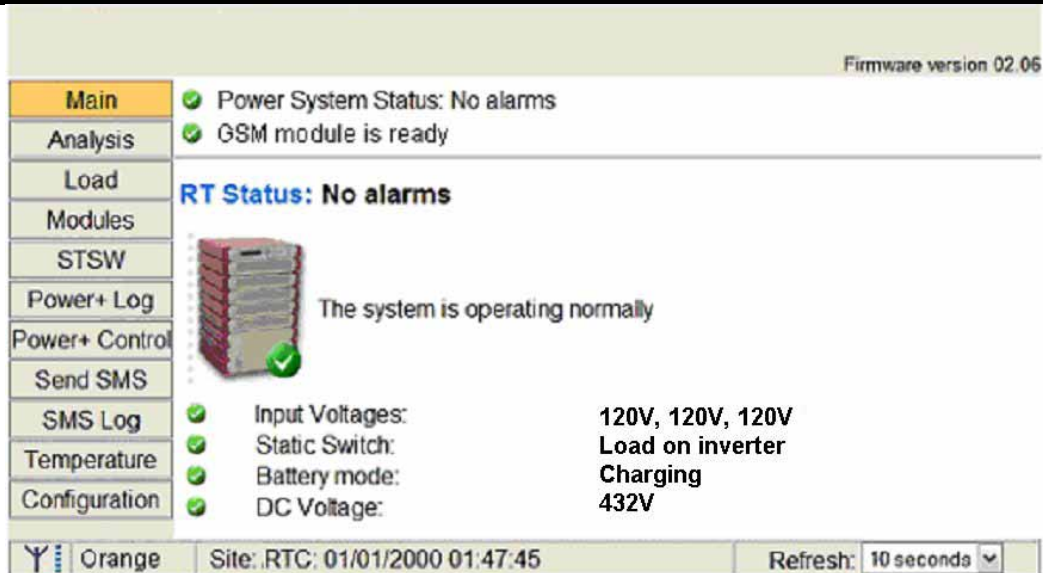

Figure 106: Main Screen of the Power+ Web interface
- 4 On a computer terminal that has connectivity to the Power+ IP address, open a Web browser and enter the Power+ IP address in the URL bar. For example: "///192.102.2.130" (without quotation marks), and press Enter. You should see the Web interface main screen (see Figure 106 below).
The Main Screen (see Figure 106 above) is the first screen you see when connecting to the GMaCi software.
The Main Menu of Power+'s built-in remote management software consists of a column of option buttons on the left side of the Main Screen (see Figure 106 on page 80).